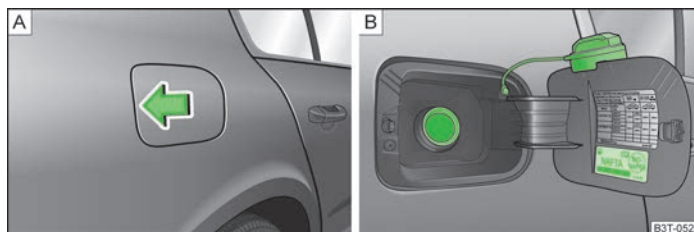

Fig. 155 Right rear side of the vehicle: Open fuel filler flap/fuel filler flap with cap unscrewed
The correct type of fuel for your vehicle and the tyre size and inflation pressure are specified on the inside of the fuel filler flap » Fig. 155 on page 174 - [B].
- Press in the middle of the left area of the fuel filler flap » Fig. 155 - [A].
- Unscrew the filler cap by turning it to the left and place the cap onto the top of the fuel filler flap » Fig. 155 - [B].